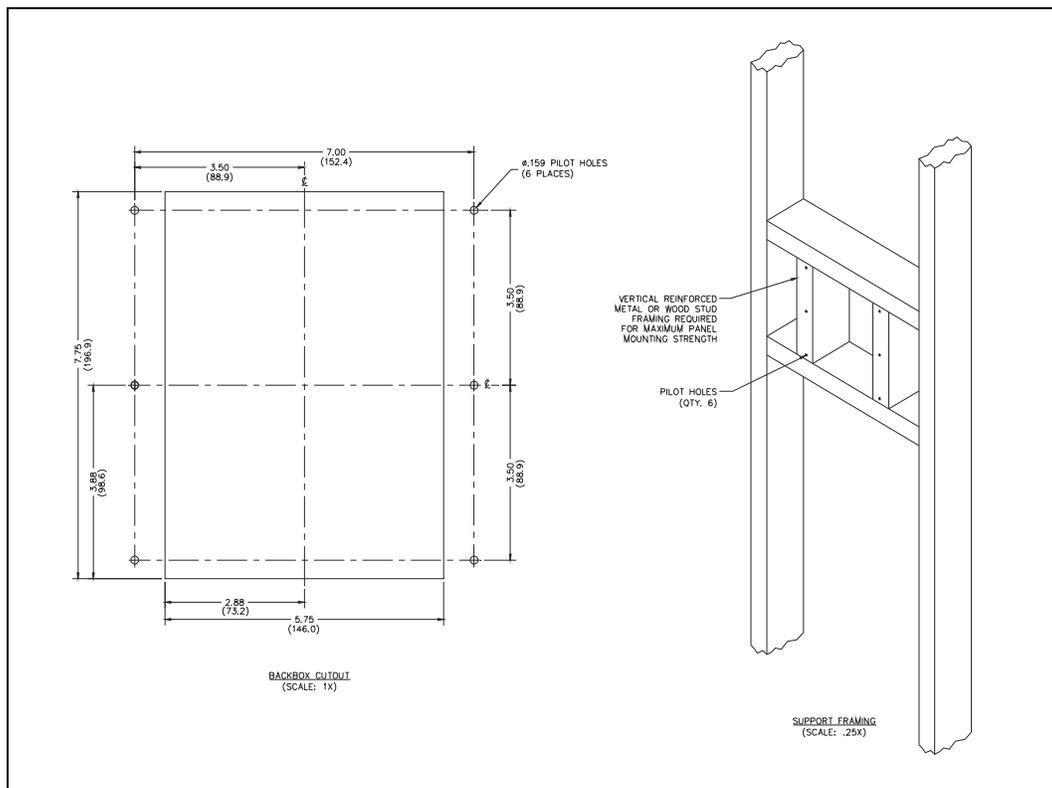

Figure 15. Cutout and Support Framing Detail for Model 276-002BH/-002BHAC
NOTE: See the cutout and support framing details for installation planning (see Figure 15)
6. Attach the front panel assembly to the mounting surface using the six supplied #10-32 thread-cutting security screws (see Figure 15).